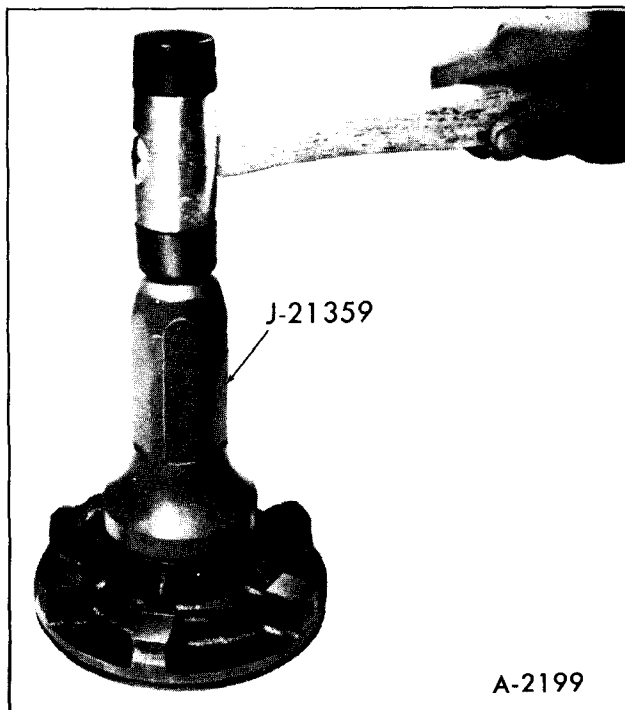

Figure 82—Installing Pump Front Seal
1. If necessary, install a new front seal, using Pump Oil Seal Installer, J-21359, to drive seal into place. Use a non-hardening sealer on outside of seal before installing into pump, Figure 82.